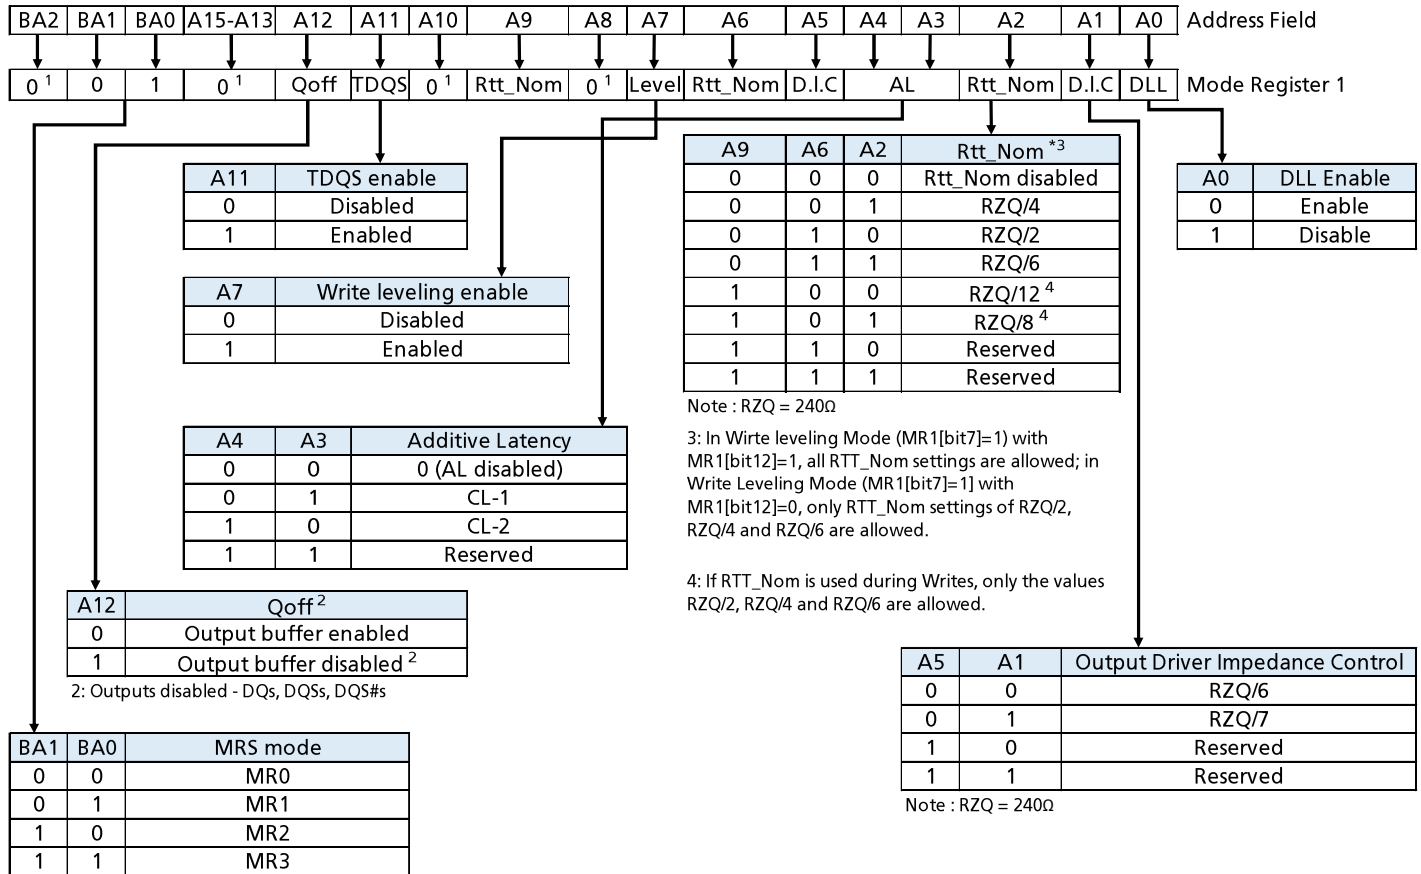

Figure 9 - MR1 Definition
The CAS Latency is defined by MR0 (bits A9-A11) as shown in Figure 9. CAS Latency is the delay, in clock cycles, between the internal Read command and the availability of the first bit of output data. DDR3 SDRAM does not support any half-clock latencies. The overall Read Latency (RL) is defined as Additive Latency (AL) + CAS Latency (CL); $RL = AL + CL$. For more information on the supported CL and AL settings based on the operating clock frequency, refer to "Standard Speed Bins". For detailed Read operation, refer to "READ Operation".
The Mode Register MR1 stores the data for enabling or disabling the DLL, output driver strength, Rtt_Nom impedance, additive latency, Write leveling enable, TDQS enable and Qoff. The Mode Register 1 is written by asserting low on CS#, RAS#, CAS#, WE#, high on BA0 and low on BA1 and BA2, while controlling the states of address pins according to Figure 9.
The output driver impedance of the DDR3 SDRAM device is selected by MR1 (bits A1 and A5) as shown in Figure 9.
The DDR3 SDRAM outputs may be enabled/disabled by MR1 (bit A12) as shown in Figure 9. When this feature is enabled (A12 = 1), all output pins (DQs, DQS, DQS#, etc.) are disconnected from the device, thus removing any loading of the output drivers. This feature may be useful when measuring module power, for example. For normal operation, A12 should be set to '0'.